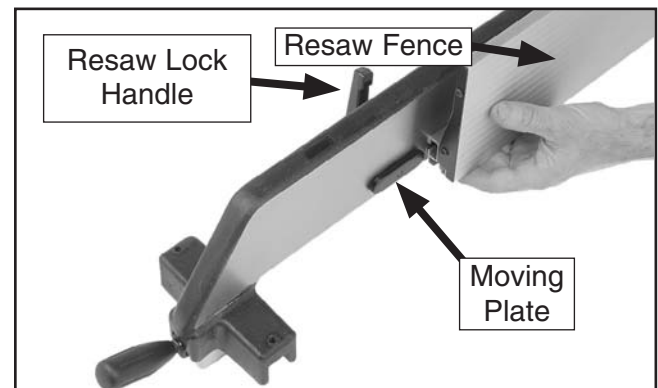

Figure 42. Attaching resaw fence to standard fence.
5. Install the resaw fence lock handle (with the washer and moving plate) onto the fence, then slide the resaw fence over the moving plate as shown in **Figure 42**.